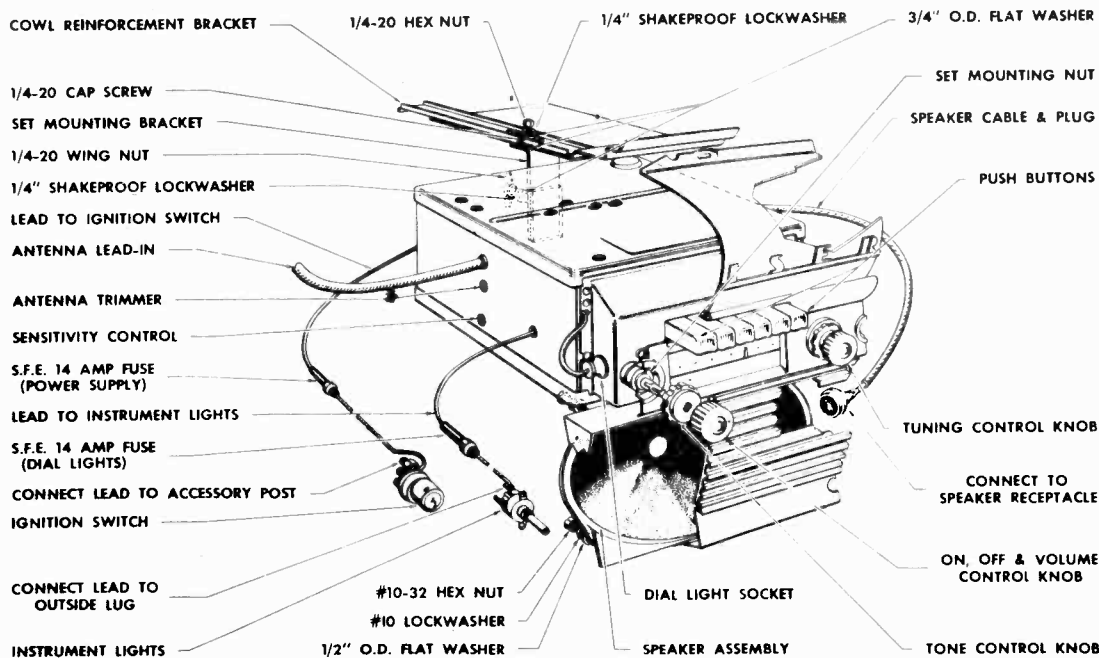

Fig. 1. Installation Details, Kaiser
Reference is made to the Installation Details shown in Figures 1 and 2. The necessary mounting hardware for radio installation and, also, the radio control knobs and interference elimination components are found packaged in a cardboard box inside the radio shipping carton. The step-by-step procedure for installation is given as follows:
3. Fit the Set Mounting Bracket over the stud at the rear of the radio so that the serrated surfaces mesh, and place a  $\frac{3}{4}$ " O.D. flatwasher,  $\frac{1}{4}$ " shakeproof lockwasher, and the wing nut onto the stud and over the assembly in the order mentioned and as shown in Figures 1 and 2.
To take the receiver out for servicing, consult the installation detail drawings of Figures 1 and 2 while following the outlined procedure below.